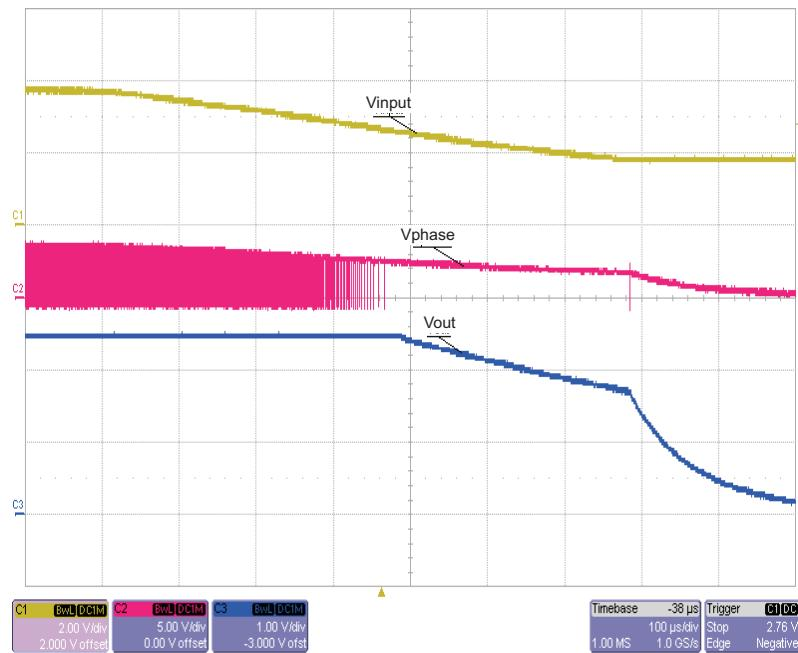

Figure 8. Power Down in PWM/PFM Mode, $V_{in} = 4$ V, $V_{out} = 2.5$ V, $I_{out} = 0.5$ A; CH1 = Input Voltage; CH2 = Phase; CH3 = Output Voltage
9. Set the single-sequence trigger for negative slope and time for 100 μ s/div; arm scope and unplug power supply. See Figure 8 for an example of power down by removing input supply.